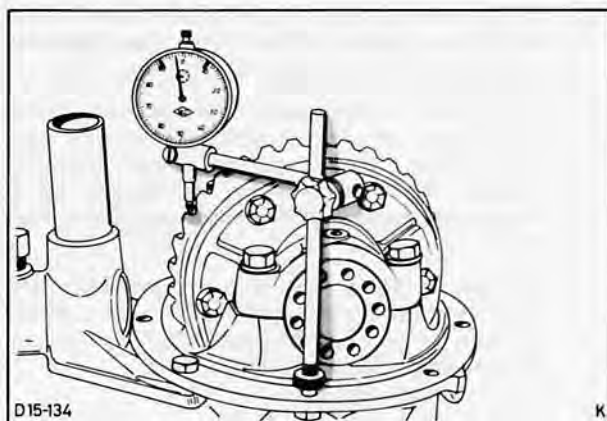
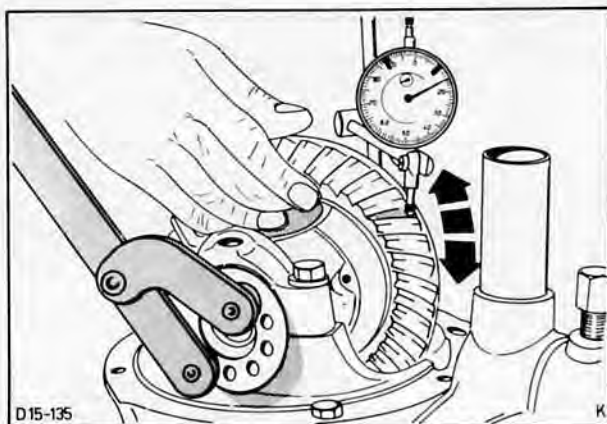

Fig. 123. Position dial indicator plunger at right angles on one of crown wheel teeth
Fig. 124. Set backlash, turning crown wheel to and fro by hand
35. Set backlash. To do this, position plunger of dial indicator at right angles on one of crown wheel teeth, Fig. 123. Tighten adjusting nuts on crown wheel side, slackening nut on differential housing side, so as to produce a backlash of 0,01 mm. Tighten adjusting nut on differential housing side until prescribed backlash of 0,12 to 0,22 mm is attained. Turn drive pinion several times and measure backlash at three points again to check, Fig. 124.